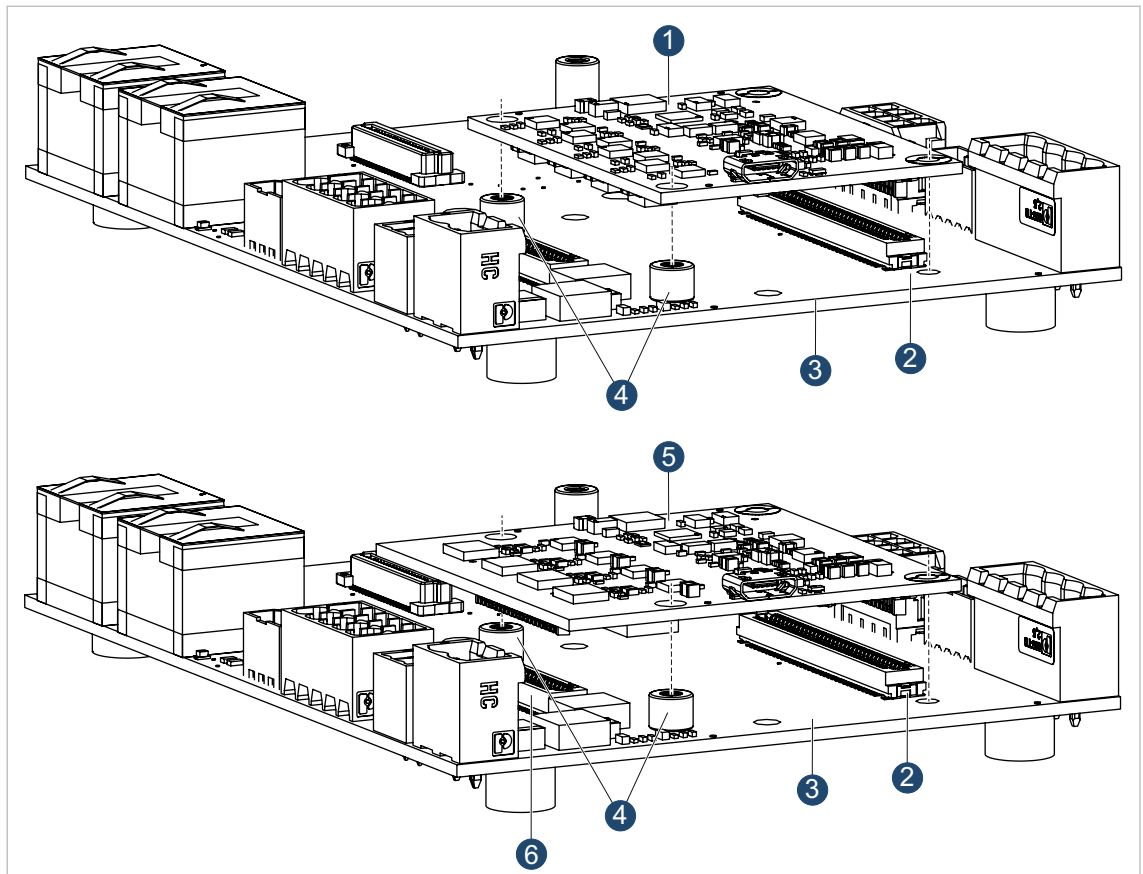

Fig. 9: Installing the Motion Controller PCBs on the evaluation board
- ▶ Note orientation of the Motion Controller PCB acc. to Fig. 9.
- ▶ Connect Motion Controller PCB MC 3602 B (1) to the evaluation board (3) via the B2B connection X100 (2).
- ▶ Connect Motion Controller PCB MC 3606 B (5) to the evaluation board (3) via the B2B connections X100 (2) and X101 (6).
- ▶ Fasten the Motion Controller PCB to the two threaded attachments (4) using screws (M2.5 x 6) and a suitable washer.